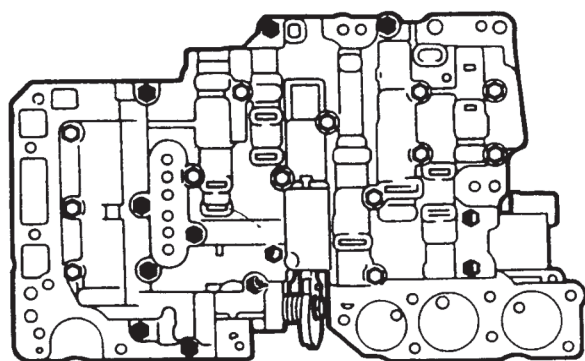

Fig. 3 Valve Body Bolt Location/Size
- (4) Install valve body bolts. **Three different length bolts are used. Refer to the Figure 3 for bolt locations. Chart symbols indicate bolt location and length in millimeters.**
- (5) Tighten valve body bolts to 6.4 N·m (56 in-lbs) torque.